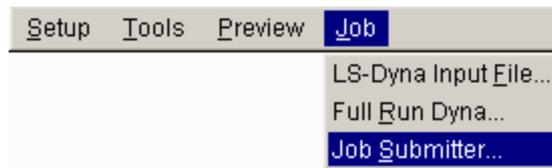

Figure 7.52 Job Submitter menu
1. Click **Job**→**Job Submitter...** in the menu bar. See Figure 7.52.